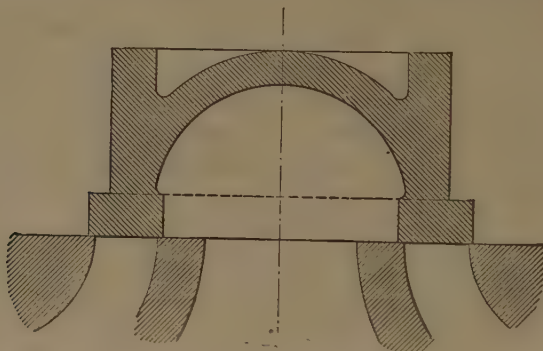
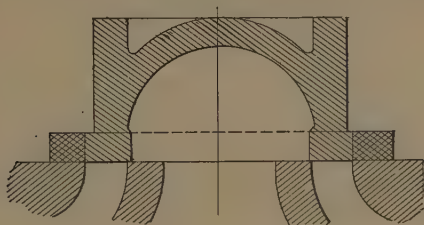
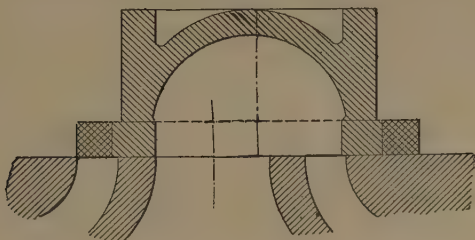

Fig. 134. Slide Valve.
Fig. 135 Slide Valve with Lap Added.
Fig. 136. Slide Valve with Lap Added.
A. As shown in Fig. 134, and in Figs. 135 and 136, it consists of a plain surface having three narrow ports, with parallel edges, all of which are at right angles to the direction of motion of the piston and of the valve. The central (and larger) one communicates only with the exhaust-passage, the end ones with the cylinder, at the counterbore, each serving alternately for admission and exhaust for its own cylinder end. There are usually shoulders at each end, so that the valve may in its travel extend beyond them, instead of cutting away material and wearing a low place in the seat.
A. Outside, equal to the extreme distance between outside edges of the end ports; inside, equal to the distance between inside edges of the same ports, as shown in Fig. 135, where the valve is in mid-position.
the end ports. In Fig. 135, where the valve is in mid-position, the outside lap is represented by the extra heavily hatched portions at both ends. In Fig. 136 there is no lap.